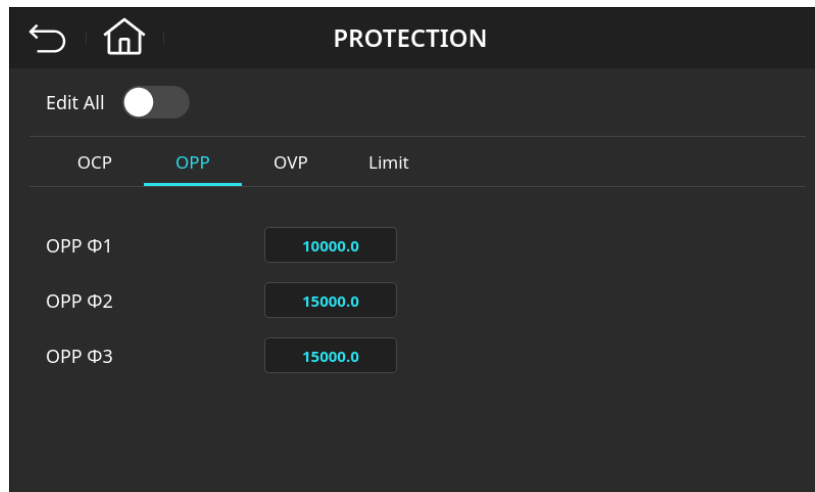

Figure 4-55 Output Overpower Protection Page (OPP Φ 1 = 10000.0 VA)
4. Enter 1, 0, 0, 0, 0 then press  to change the value to “10000.0”, as shown in Figure 4-55.